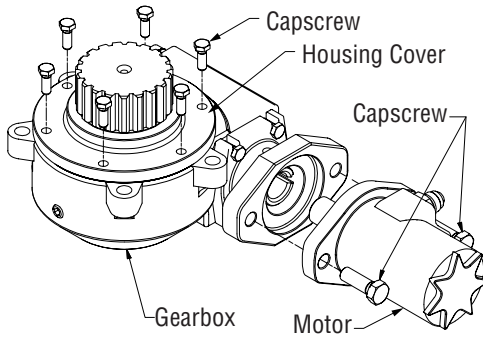

Figure 5-6, Motor Removal
3. Place the gearbox on a flat surface and remove the motor mounting capscrews. Note: Coupling fits loose and may slide out. (Figure 5-6)